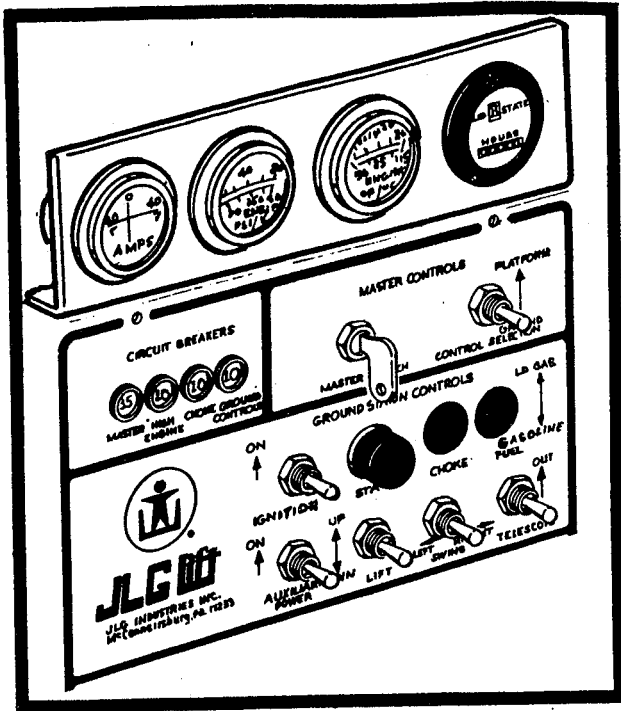

Figure 3-1. Ground Control Station
a. Ground Station. (Figure 3-1.)